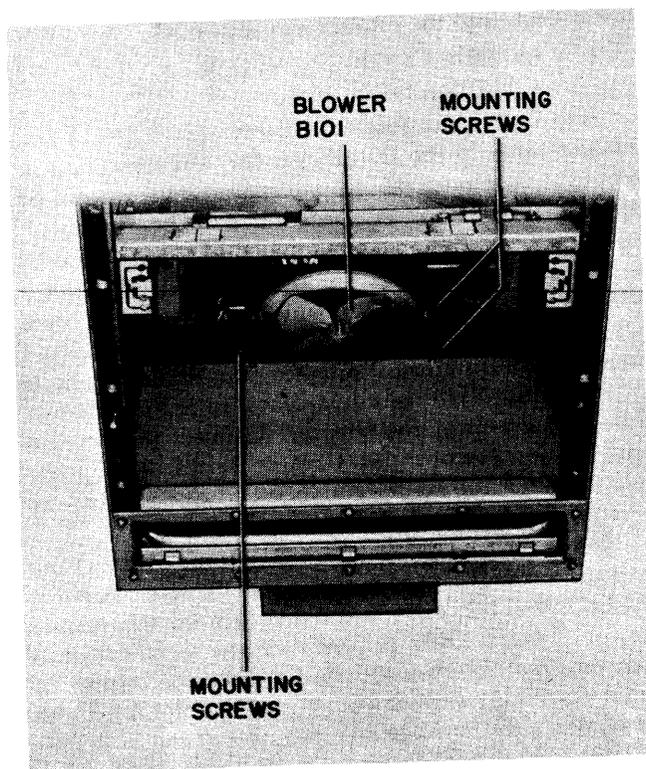

Figure 6-13. Electrical Equipment Cabinet
Step 3. Refer to figure 6-13 and remove the screws which secure the blower mounting plate in position.